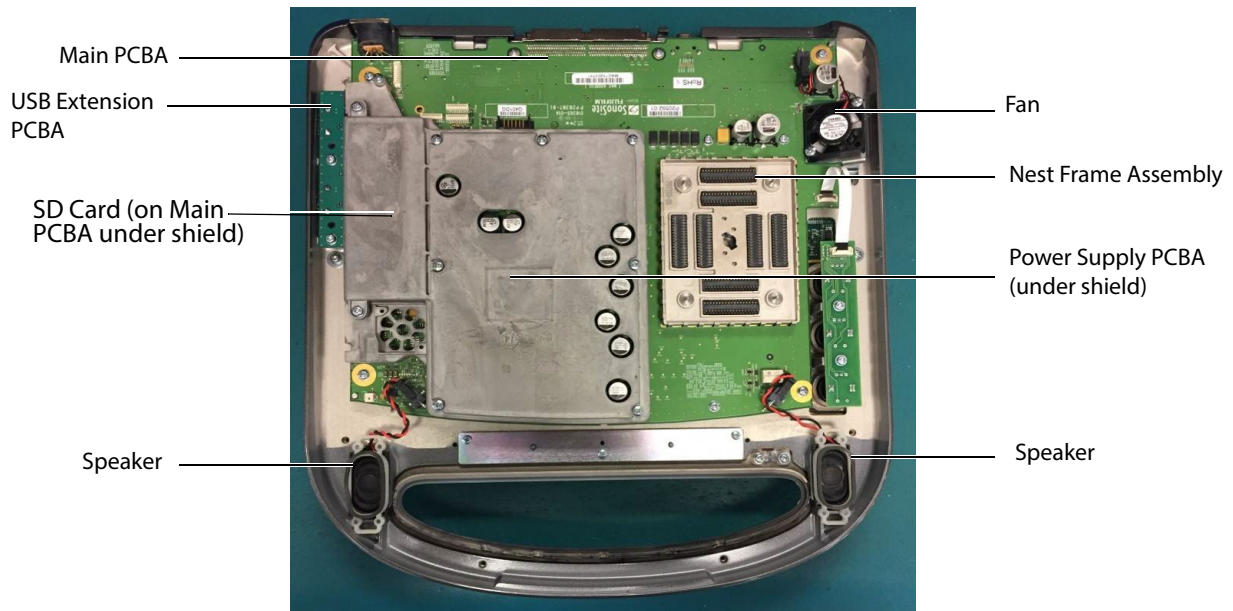

Figure 6.9 System Components
- 4 Follow the cable removal from the procedure in "Display Removal" on page 41/42. This exposes all of the replacement parts for the main system per Figure 6.9.